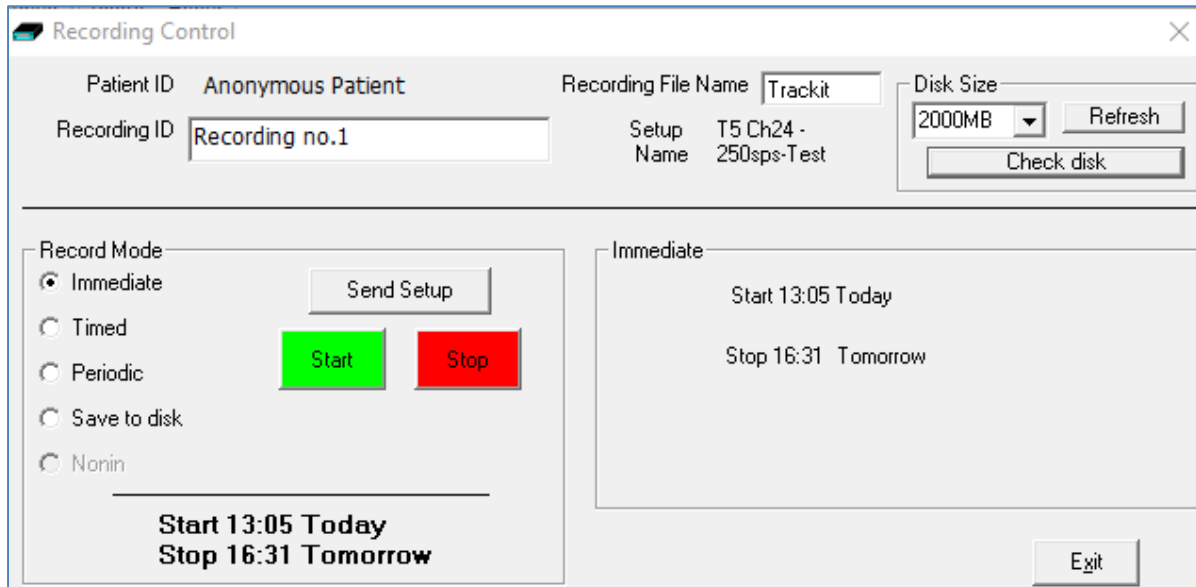

Figure 27: Recording Control panel
Note: If the patient details have not been entered beforehand, the Patient Details window (Figure 26 or Figure 27) will appear first.
9. The Recording Control panel (Figure 27) will appear.
Click on the 'Setup Recording' button in the Trackit Control Panel to open the Recording Control dialog box (Figure 27). The Recording Control panel is also displayed by pressing the "Amb Rec" or "Dual Rec" button on the Home toolbar.
Immediate: the recording starts as soon as the Start button is pressed (Figure 27). Recording finishes when the Trackit is turned off, when the disk is full or when the recording is stopped.